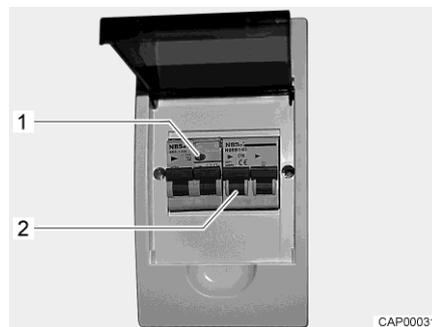

Fig. 47 230 V fuse box with safety cut-out and FI-switch
A fault current protection switch (FI-switch) in the fuse box protects the complete vehicle from fault current (0.03 A). A downstream safety cut-out (10 A) (Fig. 47,2) secures the 230 V power supply.
- When the vehicle is connected to the 230 V power supply, press the test button (Fig. 47,1). The fault current protection switch must trip.